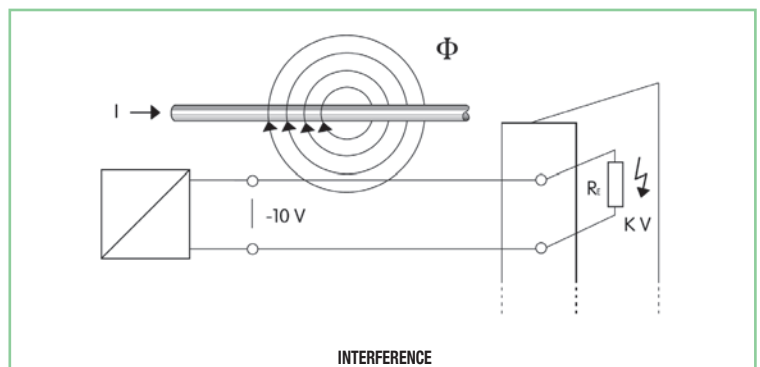

fig. 5
- the signal cables are wired in conduits with power cables (Fig. 5).